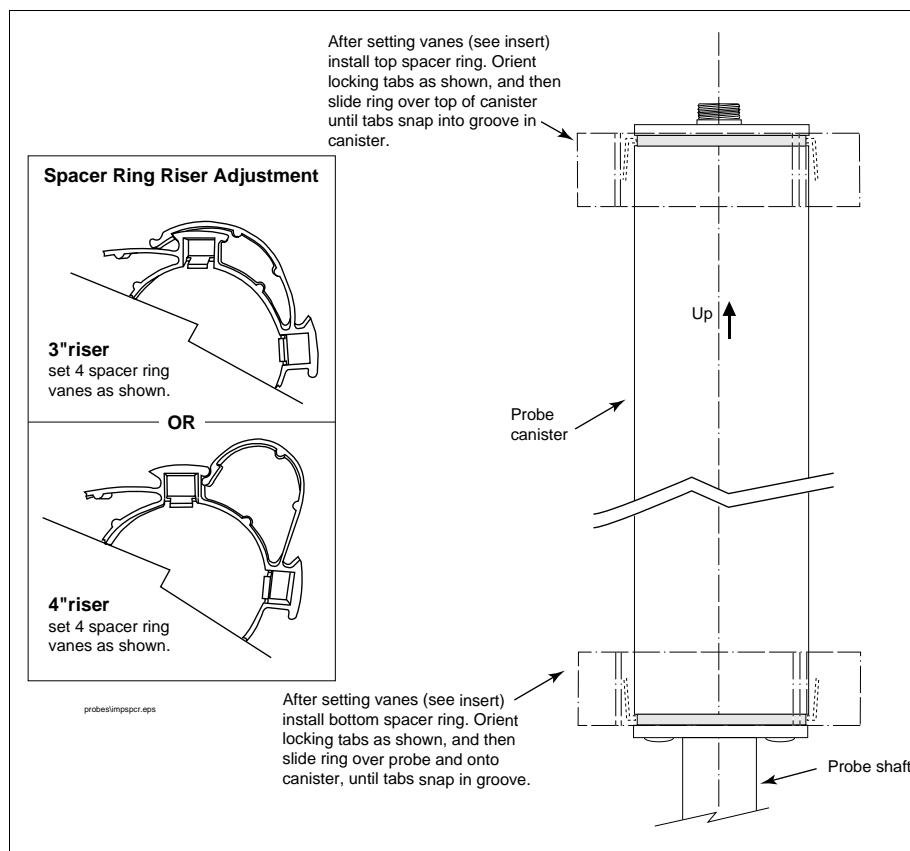

Figure 2. Installing Probe Canister Spacer Rings
2. If you are installing the probe in a 2-inch riser, you will not need the canister spacer rings. If you are installing the probe in a 3- or 4-inch riser, then you will need to slip the spacer rings on the probe canister as shown in Figure 2. Note: you must slide the bottom spacer over the probe shaft and onto the lower end of the canister.